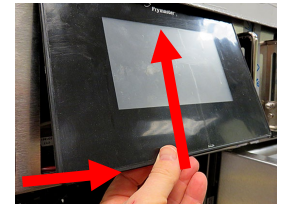

Figure 13
6. Lift the controller out from the bezel (see Figure 13).